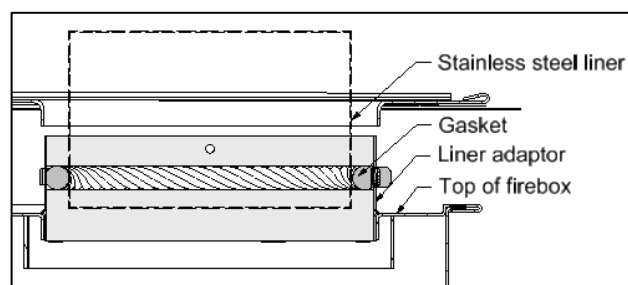

Figure 16: Liner Adaptor Installation
- b) Align the liner adaptor with the flue of the insert (Figure 16).